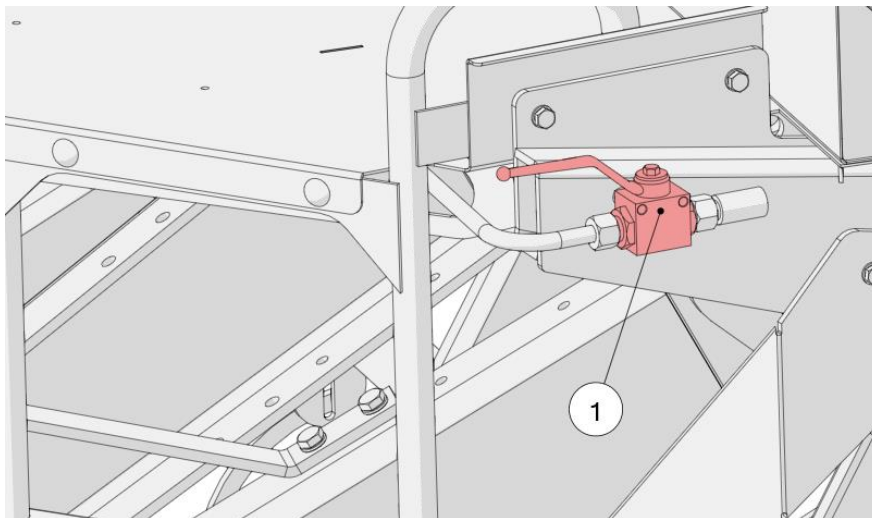

Figure 9. Tailgate cut-off valve
A hydraulic cut-off valve (1) is used to protect the tailgate against unwanted lowering (Figure 9). To do this, open the tailgate and then turn the cut-off valve (1) to the closed position. To unlock the rear chamber, turn the valve to the working position and close the chamber.